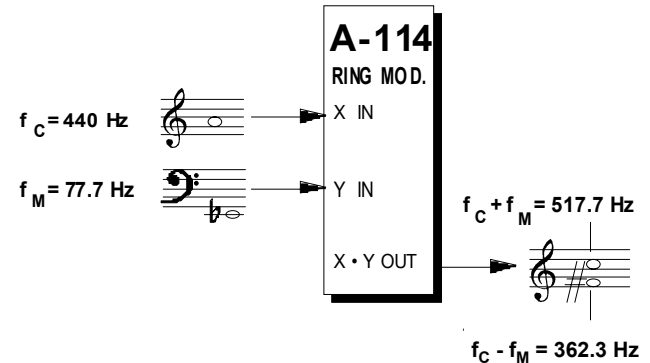

Fig. 1: Ring modulation with two sine waves
The ring modulator thus provides a refinement of amplitude modulation (AM). Ordinary amplitude modulation will output the original carrier frequency f_C as well as the two side bands ($f_C - f_M$, $f_C + f_M$) for each of the spectral components of the carrier and modulation signals - but ring modulation cancels out the carrier frequencies, and just lets the side-bands pass to the output (see Fig. 1).
Fig. 1 shows a basic form of ring modulation using two sine waves. This patch can provide **bell-** and **vibes - like sounds**.